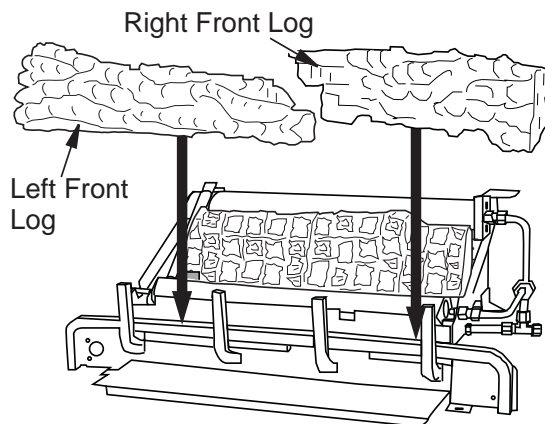

Figure 25 - Installing Left/Right Front Logs
3. Place front left (18" D-064, 24" D-057 & 30" D-038) and front right (18" D-065, 24" D-058 & 30" D-039) logs as shown in **Figure 25**.